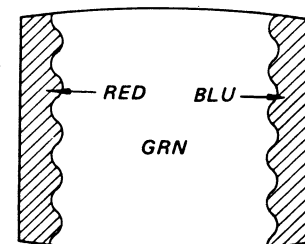

Fig. 3-3
- 6. Adjust purity magnet tabs to center vertical green band as shown in Fig. 3-3.